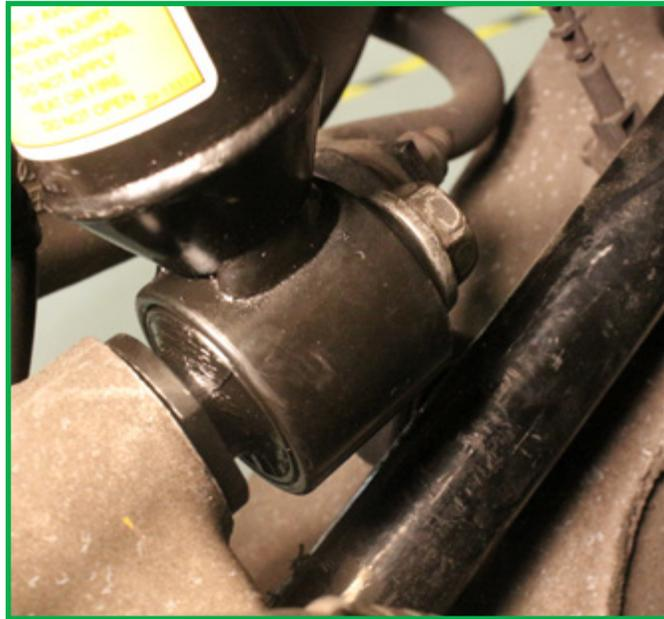

FIGURE 20
4. Install the bottom strut mount bolt and tighten to manufacture's specifications. (Figure 20)